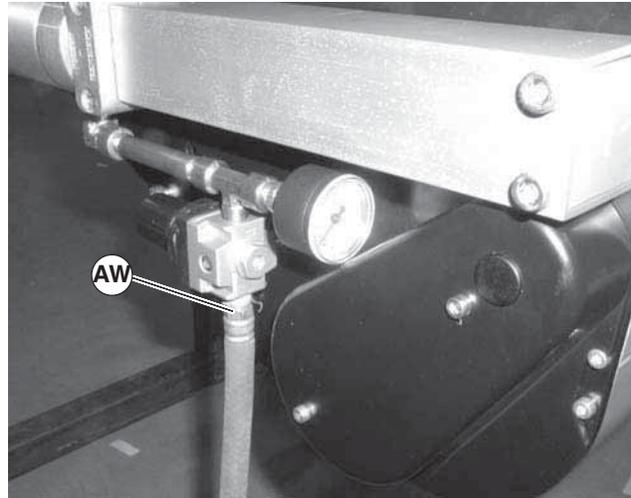

Figure 103
1. Remove air supply (Figure 103, item AW) from center drive module.